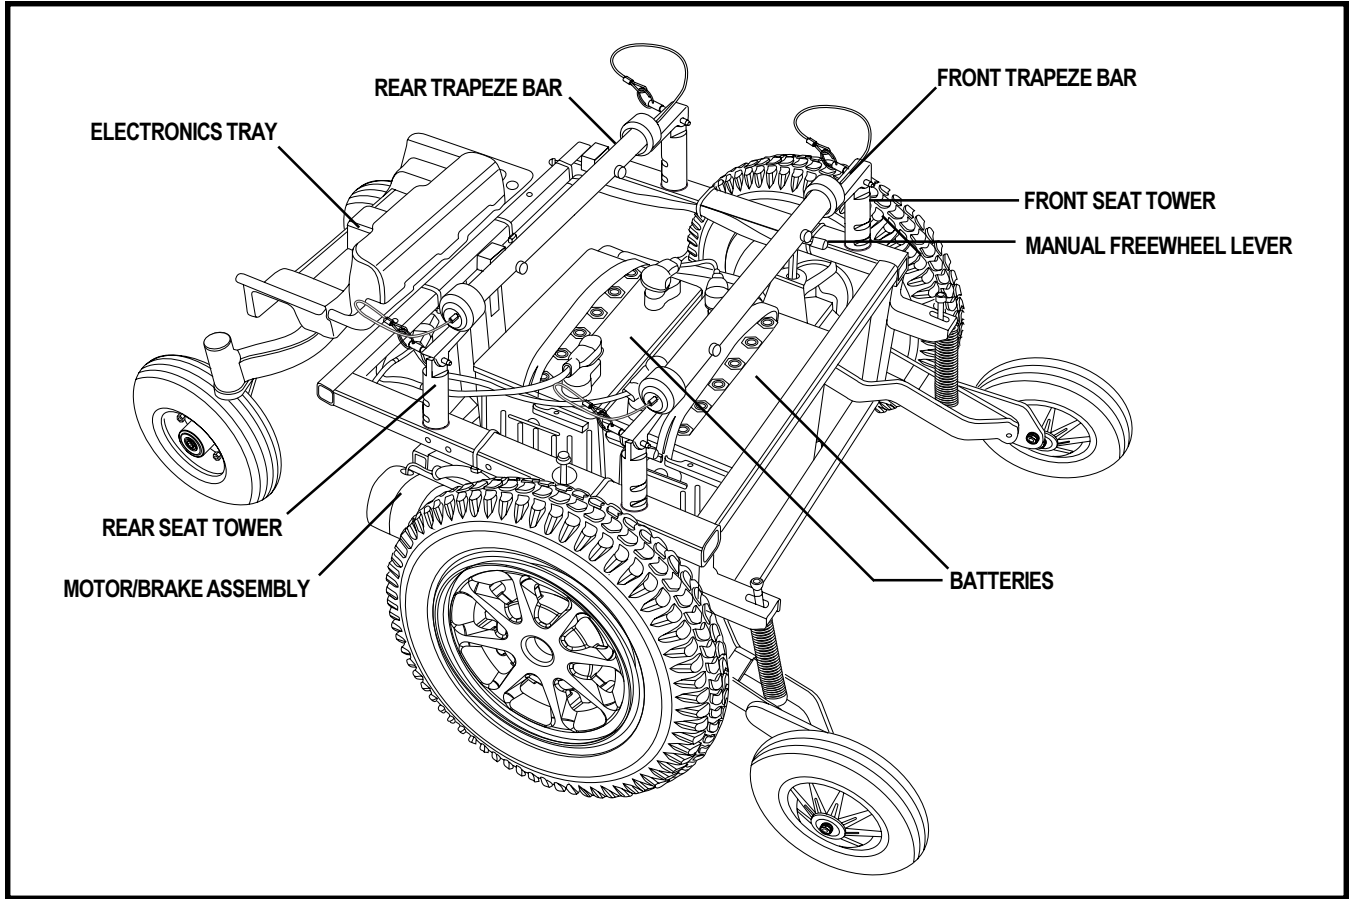

Figure 6. Jazzy 1170XL Power Base (Shroud Removed)
The electronics tray is located on the back of the power base. See figures 6 and 7. The ammeter, the charger power cord, the main circuit breaker, the controller connector, and the charger inhibit connector are all located on the electronics tray.
2. Tilt the seat back and slide the rear extrusion onto the rear trapeze bar. See figures 6 and 13.
5. Plug the controller cable into the connector on the electronics tray. See figure 6.